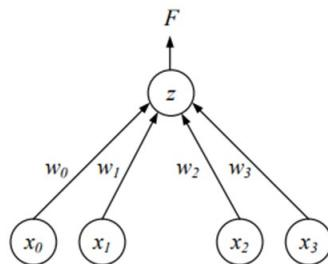

Figure 1. The network structure of an integrate-and-
- *Integrate:* This neuron ( $z$ ) first integrates the input from other 4 neurons ( $x_0$  to  $x_3$ ). Each input,  $x_i$ , is a 4-bit binary data. There are 4 synapses ( $w_0$  to  $w_3$ ) connecting  $x_i$  with  $z$ , respectively. Each  $w_i$  is a 1-bit binary data (i.e.,  $w_i$  is either 0 or 1). Figure 1 illustrates the network structure, i.e.,  $z$  performs the weighted sum of  $x_i$ :